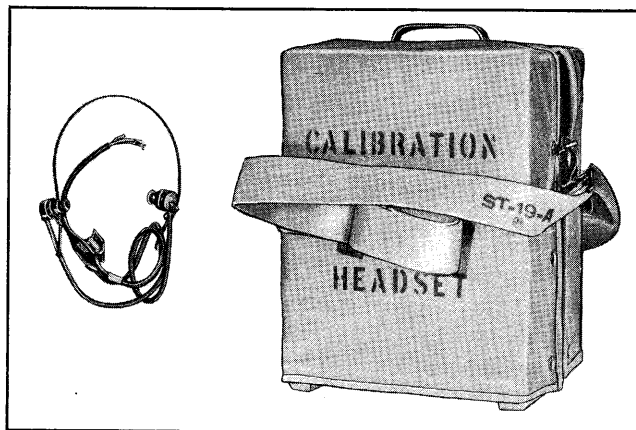
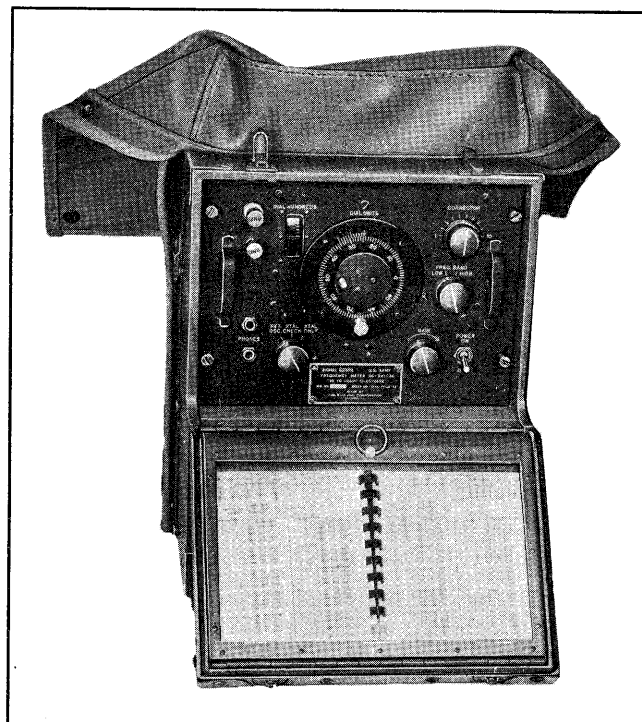

Figure 1-2. Bag BG-81-(*)
Figure 1-3. Two Piece Non-Removable Cover
c. BAG BG-81-(*).—The carrying bag (see fig. 1-2) is designed to include all components of the frequency meter set. The bottom is felt-padded. The top, hinged at the rear, has overhanging sides and front to exclude dust and water. This cover is fitted with webbing straps so that it may be conveniently secured by buckles on the front of the bag. Suitable rings are secured with webbing to each side of the bag to which an adjustable strap may be attached. Frequency Meter Sets SCR-211-AC, -AE, -AF, and the wood cabinet model of Frequency Meter Set SCR-211-AA have a two-piece cover as illustrated in figure 1-3.